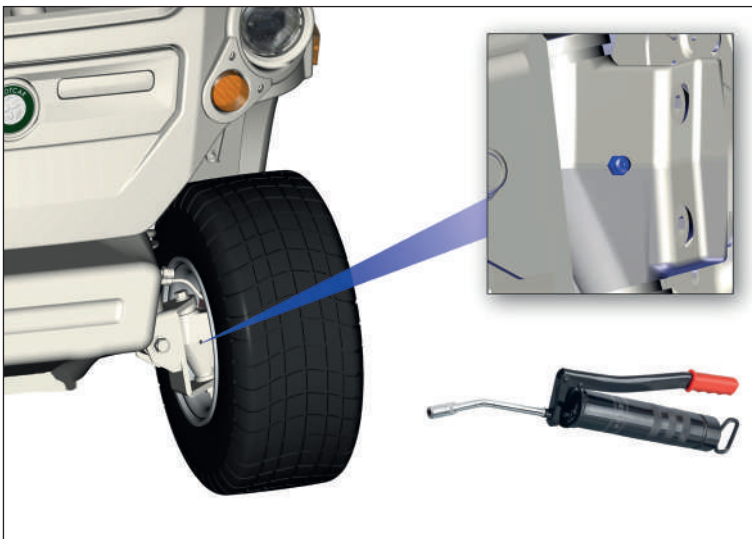

Figure 12-12 Lubrication hole on spindle carrier location
- If you feel any unusual stiffness in the steering wheel, first lubricate the system through the lubrication holes indicated in blue on the spindle carriers with the grease pump (See Figure 12-12) and check the tire pressures. If the tire pressures are lower than the value given by the manufacturer, it may cause a feeling of stiffness in the steering shaft. If the problem persists, contact with PILOTCAR Authorized Service.